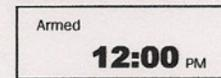

FIGURE 8
STEP 8: If you choose to continue, set run time from 1 to 30 seconds, and while repeating STEPS 3 thru 5, take note to the small number in the lower left hand corner which will indicate which of the 6 possible feedings you are setting. After finishing this step press the SELECT/ENTER button, and the screen will appear like FIGURE 8.
STEP 9: Looking at figure 8 you see the word "Armed" which indicates that your unit is now in service. It will perform the commands that you have programmed. You can test your unit by pressing the test button. (This will set up a count down from 10-9-8-----00 and at the 00 your unit will run for 5 seconds at a 100% motor speed.) *Note that the 100% motor speed is regardless of any other speed you may have set.* Once you confirm that the test has successfully run, your unit is ready for use.